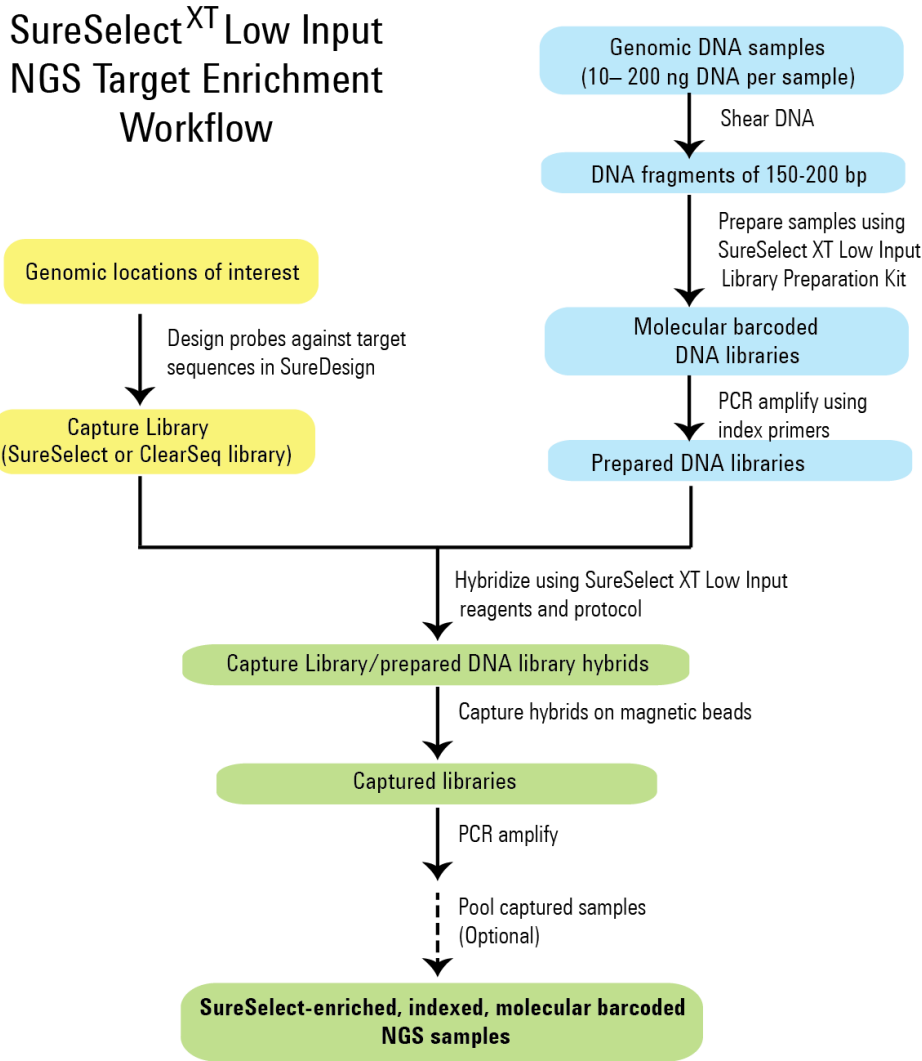

Figure 2 Overall sequencing sample preparation workflow.
Figure 2 summarizes the SureSelect^{XT} Low Input target enrichment workflow for samples to be sequenced using the Illumina paired-read sequencing platform. For each sample to be sequenced, individual library preparations, hybridizations, and captures are performed. Depending on the target size of the SureSelect capture, multiple samples can be pooled and sequenced in a single lane using the 8-bp SureSelect^{XT} Low Input multiplex indexes.
- Samples are indexed during pre-capture amplification (see Figure 2). Assign each sample to the appropriate indexing primer during experimental design, and place the sample in the well corresponding to its assigned primer. See Table 80 and Table 81 on page 105 for indexing primer plate maps.
- At the hybridization step (see Figure 2), you can add a different SureSelect or ClearSeq Capture Library to each row of the plate. Plan your experiment such that each prepared DNA library plate position corresponds to the appropriate Capture Library row in the sample plate.
- For post-capture amplification (see Figure 2), different Capture Libraries can require different amplification cycle numbers, based on sizes of the captured targets. It is most efficient to process similar-sized Capture Libraries on the same plate. See Table 59 on page 77 to determine which Capture Libraries may be amplified on the same plate.
For an overview of the SureSelect^{XT} Low Input target enrichment workflow, see **Figure 2** on page 25. This section contains instructions for automated gDNA library preparation for the Illumina paired-read sequencing platform using the Agilent NGS Bravo Option A. For each sample to be sequenced, an individual indexed and molecular-barcoded library is prepared.